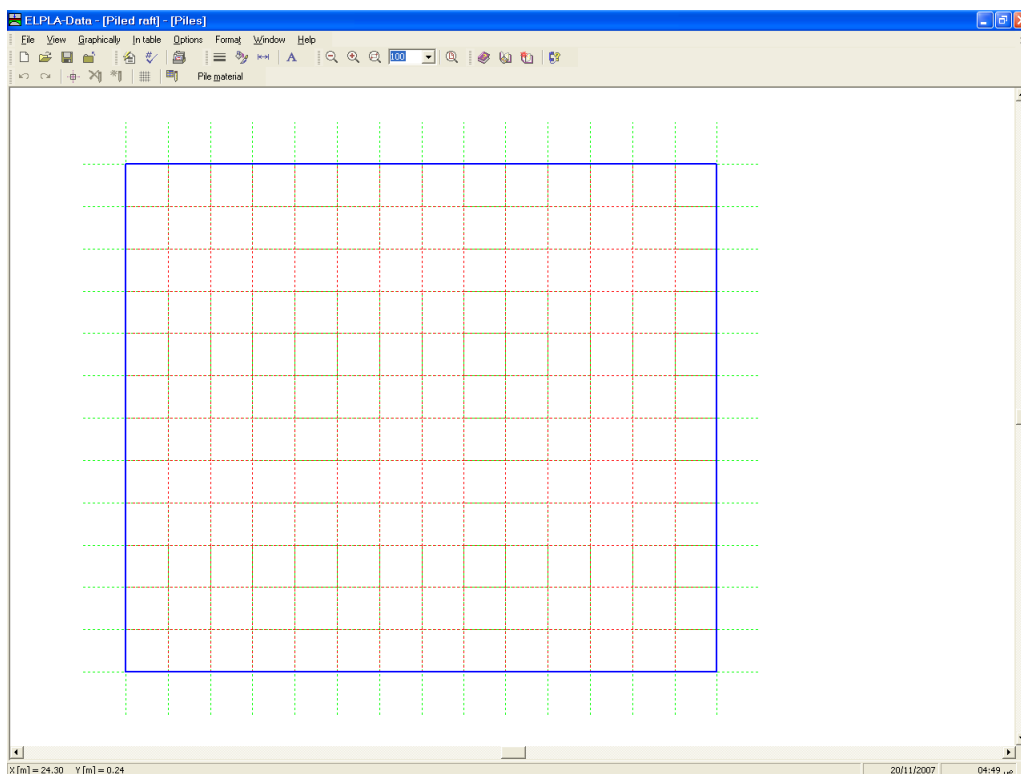

Figure 12-14 "Piles" embedded program
To define piles, choose "Piles" command from "Data" menu of *ELPLA-Data*. The following embedded program in Figure 12-14 appears.
To define pile groups that have the same diameter and length, choose "Pile groups" command from "In Table" menu in Figure 12-14. When the "Pile" groups" command is chosen, the following table in Figure 12-15 appears allowing you to define the pile diameter and length.
To define pile material, choose "Pile material" command from "In Table" menu in Figure 12-14. When the "Pile material" command is chosen, the following dialog box in Figure 12-16 appears.
- Choose "Select nodes" command from "Graphically" menu in Figure 12-14